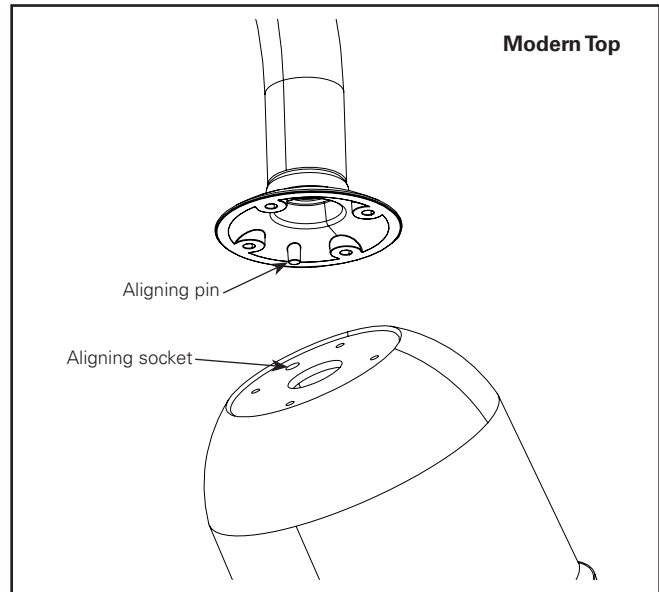

Figure 2.
5. Align locating pin and socket when raising fixture to arm. See Figure 2.